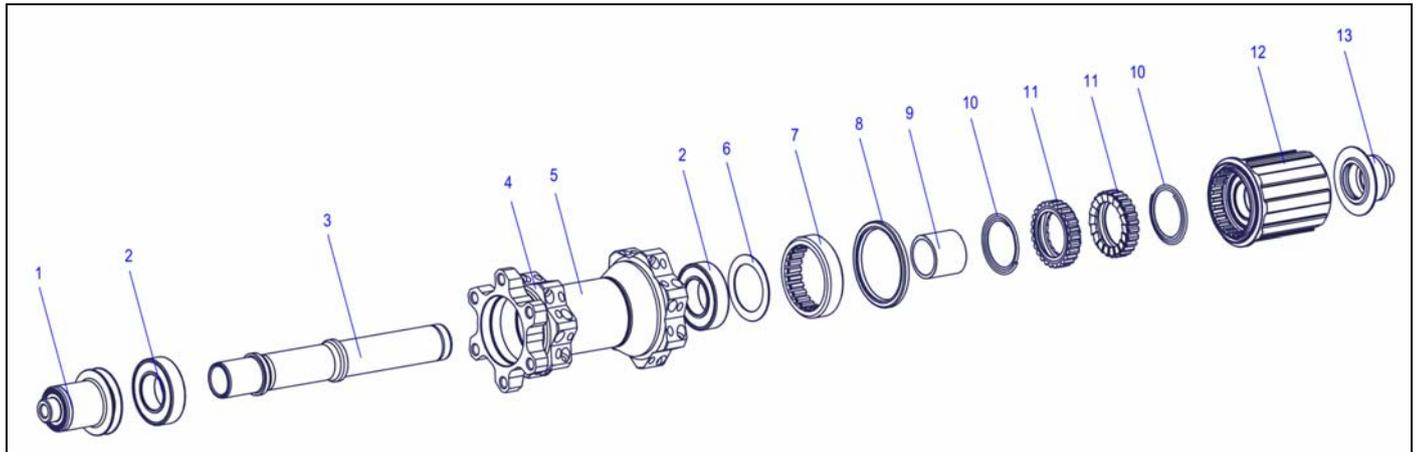

Figure 4-6: Overview: Ratchet System®
1. Clamp the left adapter (fig. 4-6/1) into a vice.
3. Clamp the left adapter (fig. 4-6/13) into a vice.
5. Pull the rotor (fig. 4-6/12) off the hub.
6. Take the springs (fig. 4-6/10), the star ratchets (fig. 4-6/11) and the spacer (fig. 4-6/9) off the hub.
3. Turn the hub counter clockwise and unscrew the ring nut (fig. 4-6/7).
The sealing (fig. 4-6/8) sitting in front of the ring nut will be released from its press fit while unscrewing the ring nut.
5. Remove the ring nut (fig. 4-6/7), the sealing (fig. 4-6/8) and the shim ring (fig. 4-6/6).
1. Tap out the bearing on the disc side (fig. 4-6/2) with slight hammer strokes onto the axle.
1. Slide the short end of the axle (fig. 4-6/3) into the bearing (fig. 4-6/2) on the drive side.
2. Check the rotor (fig. 4-6/12) for damages.
4. Slide the axle (fig. 4-6/3) with its long side downwards into the installation cylinder.
6. Put a new ball bearing (fig. 4-6/2) with the colored side facing outwards onto the hub shell.
3. Slide the axle (fig. 4-6/3) with its long end downwards into the tool.
4. Put a new bearing (fig. 4-6/2) with the colored side facing outwards onto the hub shell.
2. Put the ring nut (fig. 4-6/7) onto the tool with its recess facing upwards.
3. Put the shim ring (fig. 4-6/6) into the recess of the ring nut.